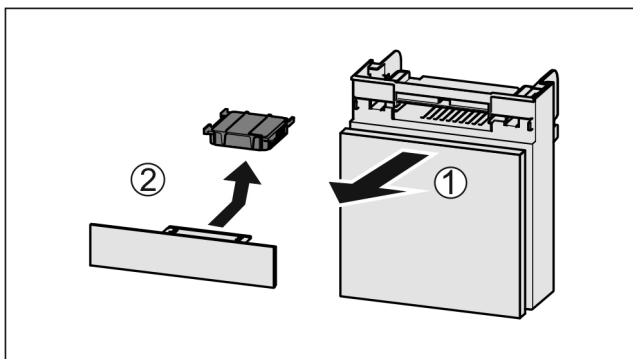

Fig. 236
- ▶ Pull out the compartment Fig. 236 (1).
- ▶ Remove the carbon filter Fig. 236 (2).